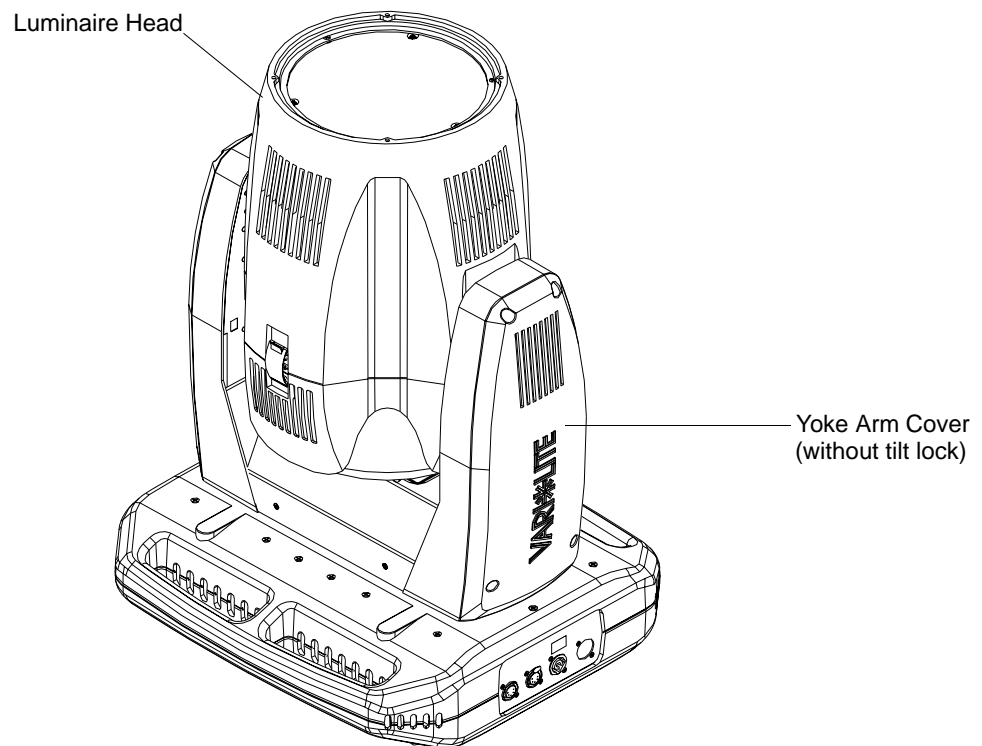

Figure 2-20: VLX Wash Luminaire
- Step 2. At yoke arm cover without tilt lock assembly, remove yoke arm cover by loosening four 1/4-turn Dzus fasteners. Refer to Figure 2-20 for details.